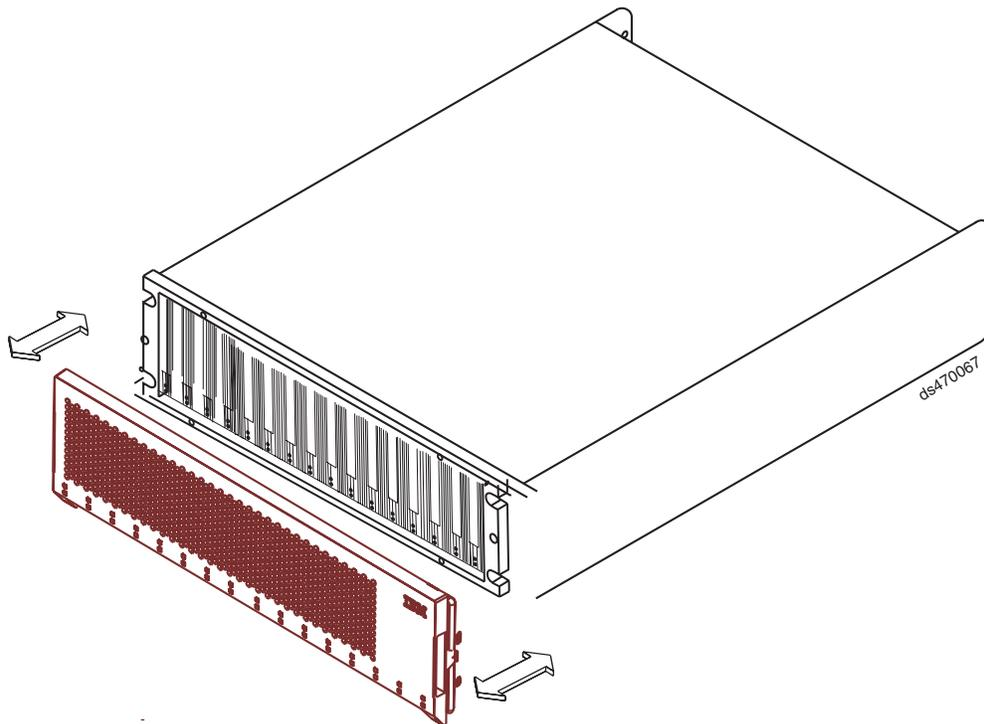

Figure 101. Removing and replacing a bezel
1. Grasp the sides of the bezel and pull it slowly toward you to remove it, as shown in Figure 101.
2. To replace the bezel, grasp the sides of the bezel and snap it onto the DS4700 Express chassis, as shown in Figure 101.
1. Remove the bezel by grasping the sides of the bezel and pulling it slowly toward you, as shown in Figure 101 on page 142.
7. Grasp the sides of the bezel and snap it onto the DS4700 Express chassis, as shown in Figure 101 on page 142.